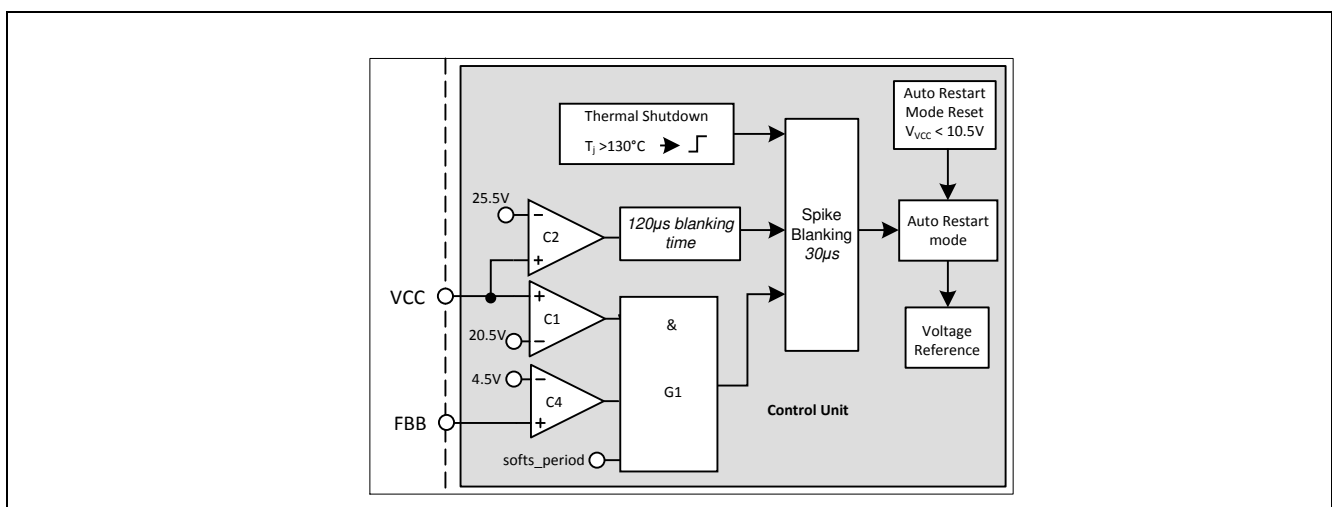

Figure 30: Vcc OVP and OTP
Vcc OVP (1) condition is when VVCC voltage is > 20.5V, VFBB voltage is > 4.5V and during soft start period, the IC enters into odd skip Auto Restart Mode. This condition likely happens during start up at open loop fault (Figure 30).
Vcc OVP (2) condition is when VVCC voltage is > 25.5V, the IC enters into odd skip Auto Restart Mode (Figure 30).
The over temperature protection OTP is sensed inside the controller IC. The Thermal Shutdown block keeps on monitoring the junction temperature of the controller. After detecting a junction temperature higher than 130°C, the IC will enter into the non switch Auto Restart mode. The ICE3AR1580VJZ has also implemented with a 50°C hysteresis. That means the IC can only be recovered when the controller junction temperature is dropped 50°C lower than the over temperature trigger point (Figure 30).